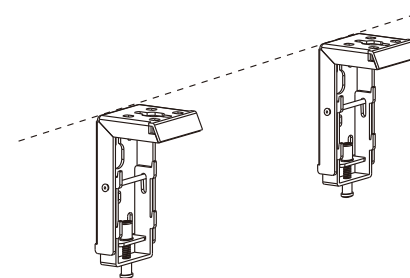

Figure 1
- 2.Mount the brackets onto the surface, ensuring it is level (tip: draw a erasable level line when mounting the brackets). See below for picture description (figure 1):